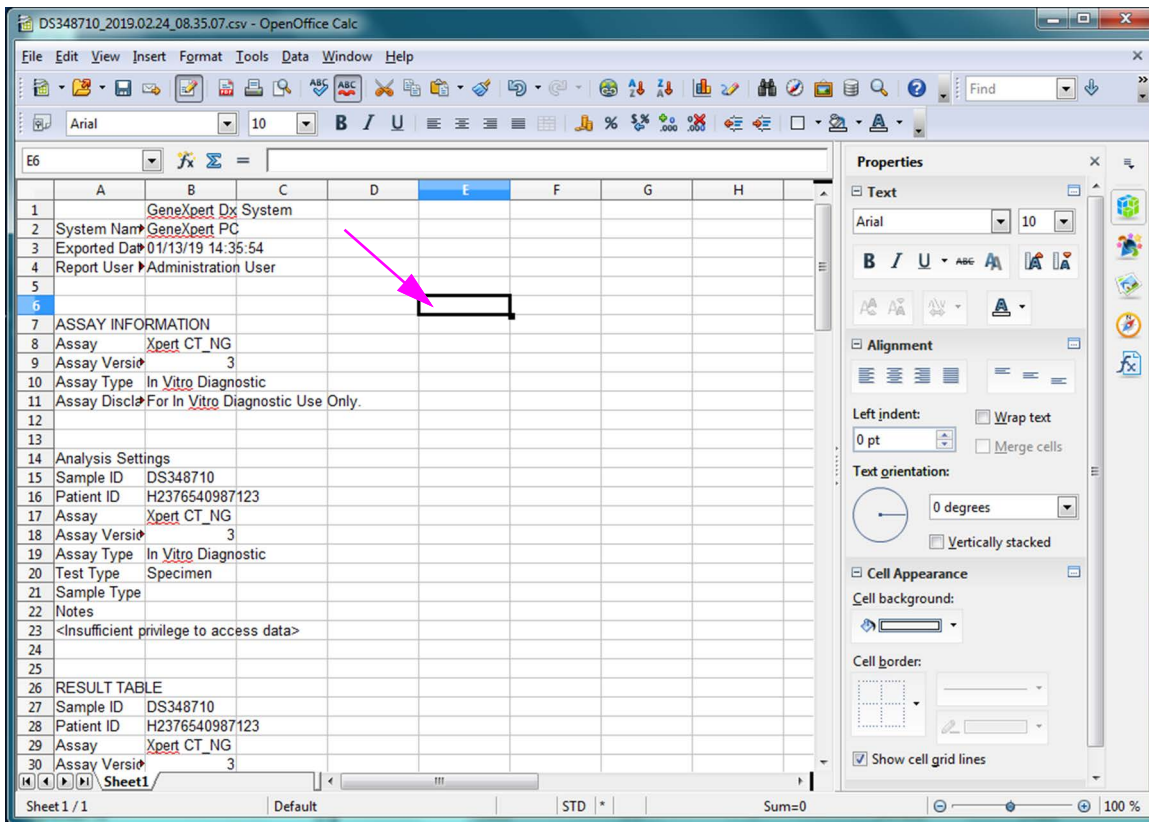

Figure D-8. Final View of File with Columns Adjusted
11. Click the checkbox to the left of **Default value**, and then click **OK** to close the dialog box. The column widths will then adjust and the file will be formatted, as shown in Figure D-8. Click anywhere in the blank columns to “deselect” the blue cells and turn the cells white again.